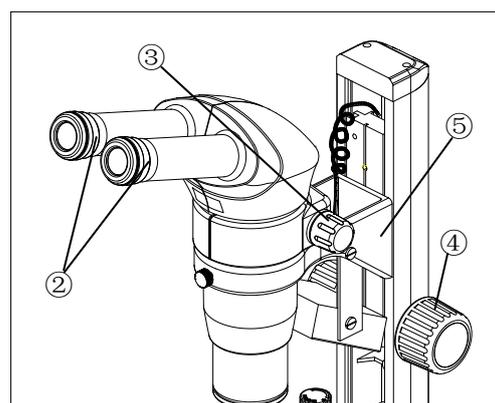
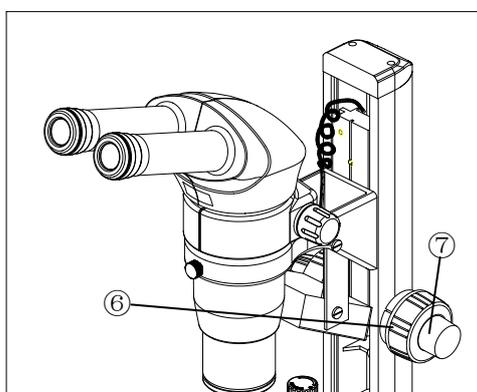

Fig.11
Fig.12
### 3.1.2 Adjusting diopter ring (Fig.11、 Fig.12)
**Fig.11 shows the focusing part of Stereo Microscope STM-850、 STM-864;**
**Fig.12 shows the focusing part of Stereo Microscope STM-880. There are coarse focusing knob ⑥ and fine focusing knob ⑦ in this kind of microscope.**
When  $2\times$  objective is chosen, it is necessary to mount the binocular head bracket ⑤ onto the lower position. Remove the clamping bolt with provided hexagonal driver and move the bracket down to the lower position and set it with original bolt (Fig.11).